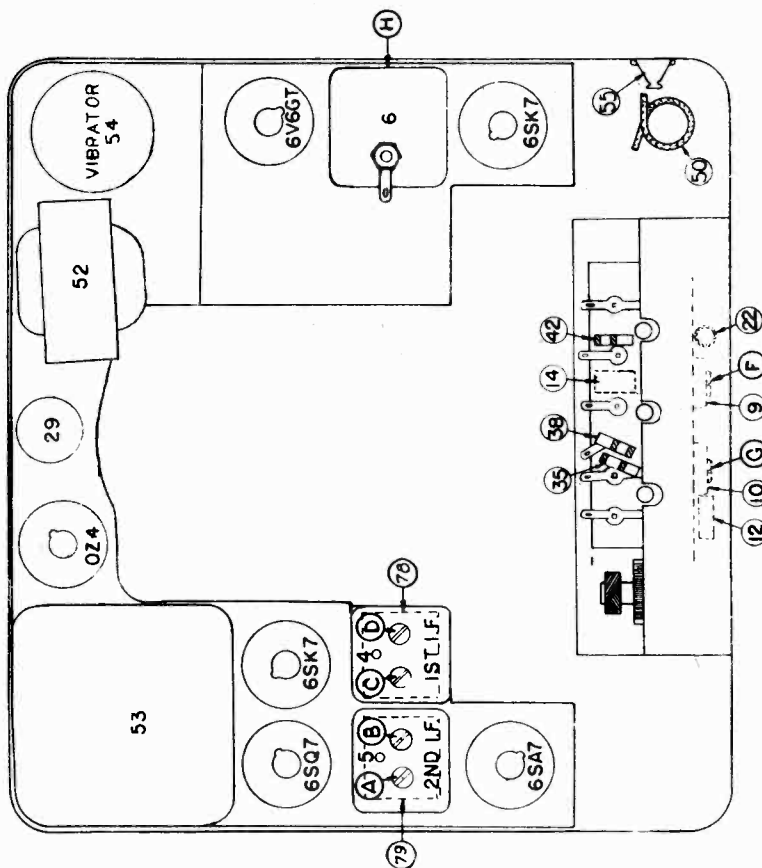

FIG. 3--PARTS LAYOUT--Top View
- (b) Connect the signal lead of the signal generator to the grid terminal of trimmer (illus. H, Fig. 3) through a .1 mfd. condenser.
- (d) Adjust the oscillator shunt trimmer (illus. G, Fig. 3) for maximum output.
- (b) Connect the signal lead of the signal generator to the grid of the 6S4Y tube (grid side of resistor #35, Fig. 3) through a .1 mfd. condenser.